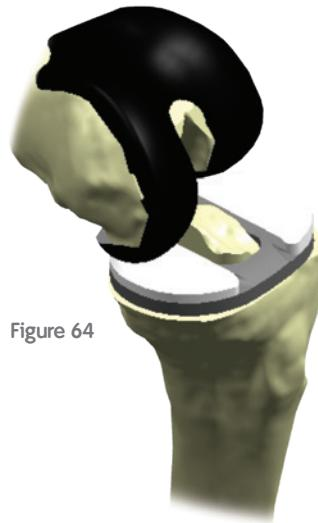

Figure 64
- 9 Remove excess cement (Figure 64).